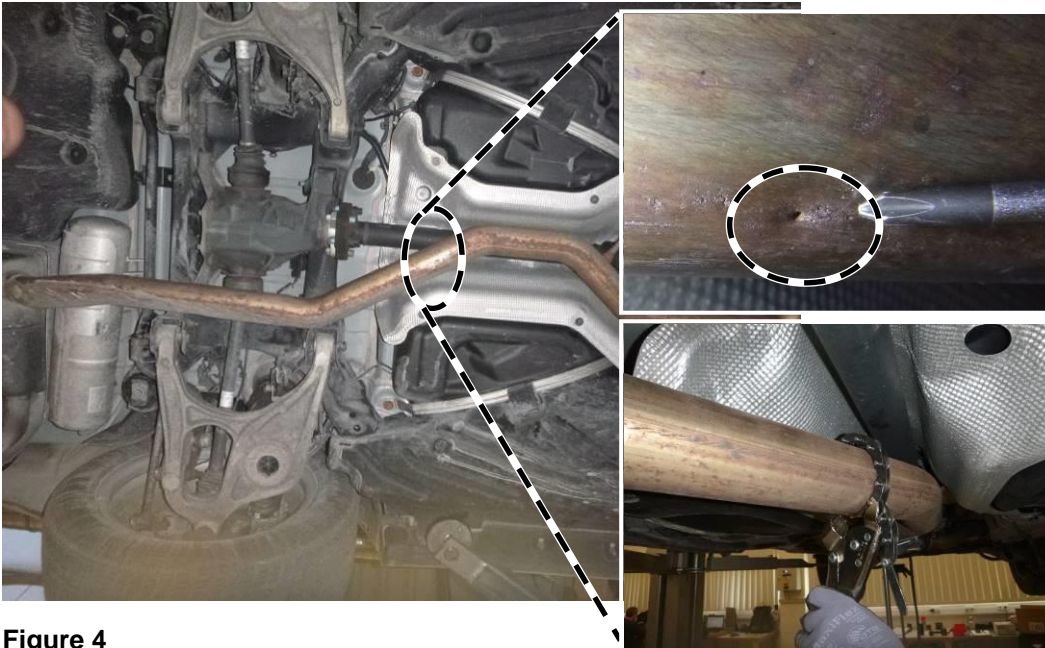

Figure 4
3. Using a chain pipe cutter, cut off the exhaust system tailpipe at a right angle to the muffler at the separating point that is marked by the stamped-in notch (**figure 4**).